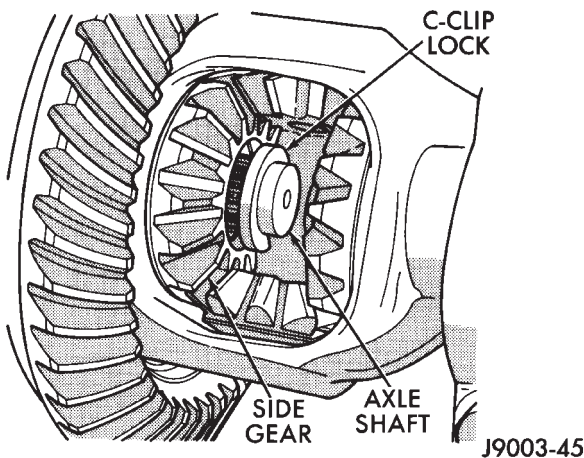

Fig. 24 Axle Shaft C-Clip Lock
(7) Push axle shaft inward and remove axle shaft C-clip lock from the axle shaft (Fig. 24).